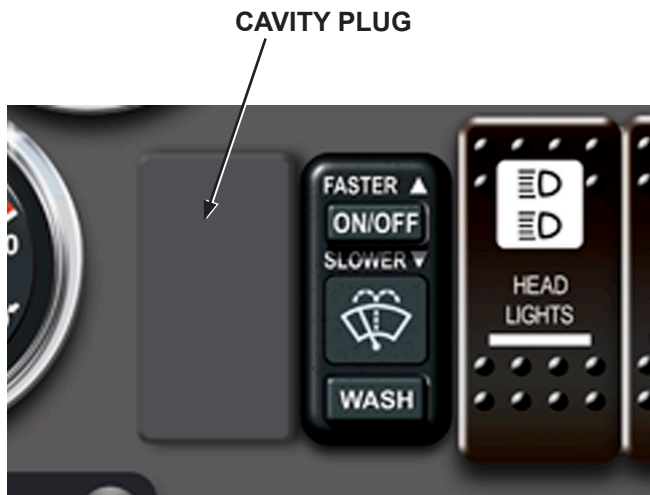

Figure 2
2. Remove the cavity plug and discard (see Figure 2).